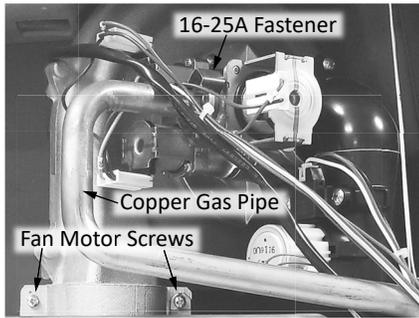

Figure 57: Gas Pipe and Fan Motor Assembly removal.
- 10 Remove the 16-25A metal fasteners on both ends of the copper gas pipe (# 104) and set them aside for re-installation. Remove the two screws securing the fan motor to the mixing chamber assembly. See Figure 57.
41 Reattach the fan blower assembly to the mixing chamber assembly (# 112). Secure it with the two screws removed earlier. See Figure 57 on page 56.
- 49 Reinstall the copper gas pipe using the 16-25A metal fasteners removed earlier. Inspect the O-rings, if any cuts or nicks are present replace them immediately. See See Figure 57 on page 56.